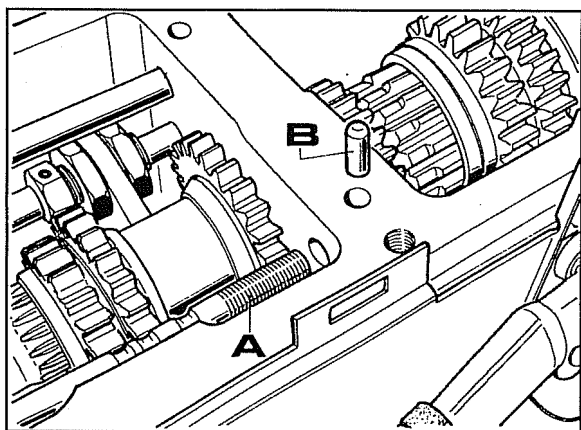

Fig. 7
- 1 Free the creep gear rod by removing nuts **A** Fig.4 and then slip it out from the back. Remove pin **B** as shown in Fig.7.